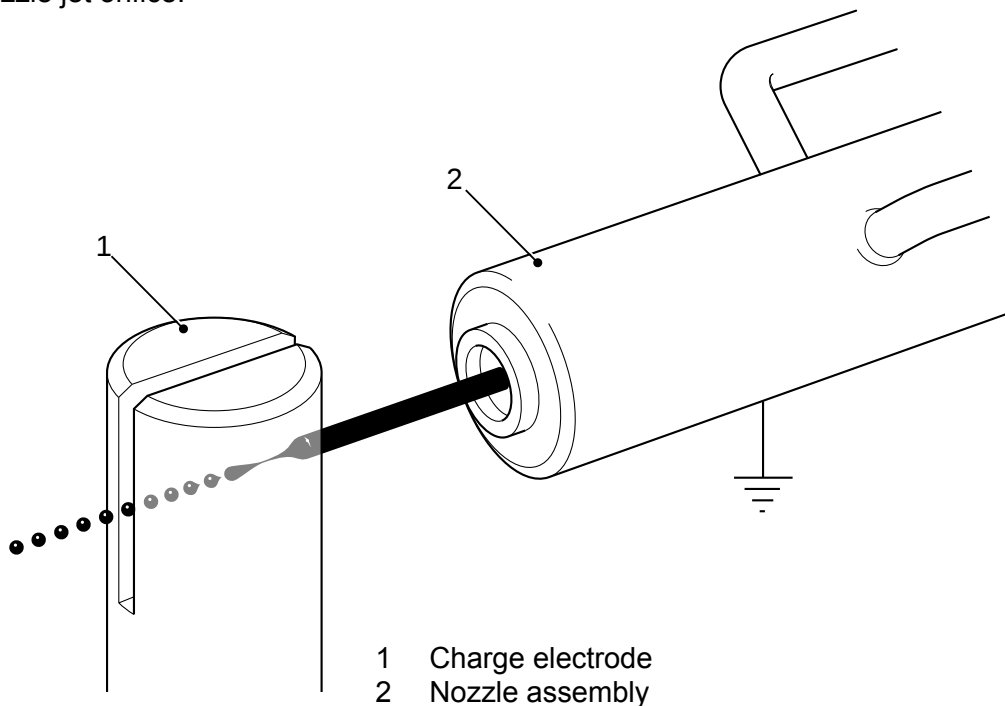

Fig 10.26 Charge electrode
- 54** The charge electrode (Fig 10.26 (1)) is positioned at the break up point of the ink stream and extends for several drops either side of it. This allows a tolerance for break up position and shields the ink stream from the influence of the other electrostatic fields. The distance between the nozzle assembly (2) and the charge electrode on a micro head is much shorter (0.5 mm) than on a standard head (2 mm). This is because the break up point of the ink stream is much nearer to the nozzle due to the higher modulation frequency and smaller nozzle jet orifice.